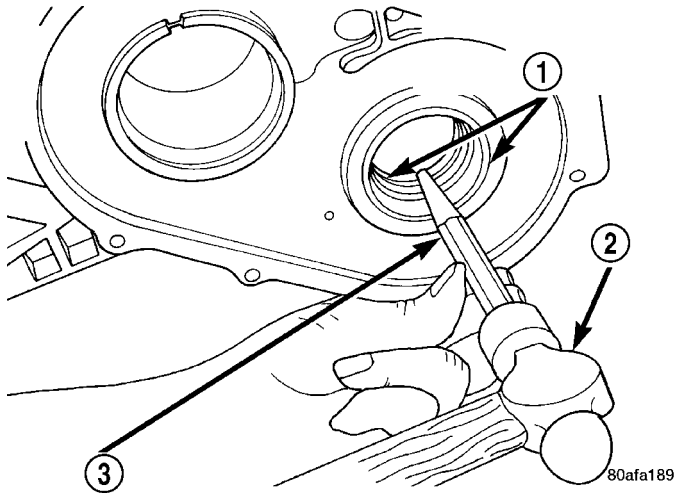

Fig. 83 Remove Output Bearing Inner Cup
(66) Using a hammer and suitable drift, drive out inner output bearing cup (Fig. 83).